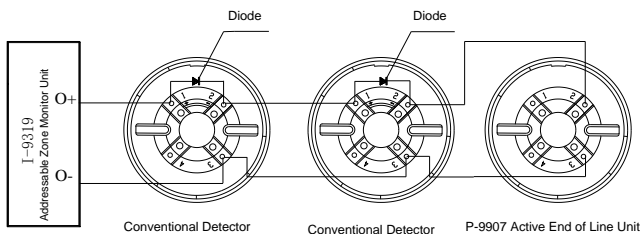

Fig. 5
2. When P-9907 Active End of Line Unit is not used as detector base, a cover should be added, the system connection is shown as Fig. 5.